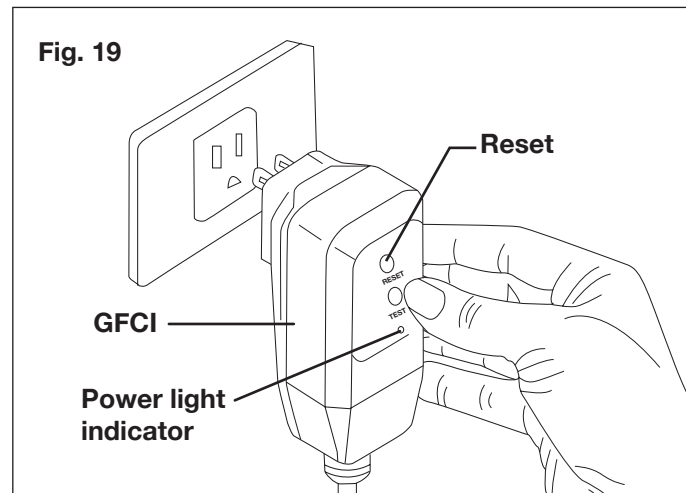

Fig. 19
15. Check that the electrical supply voltage and frequency (Volt/Hz) correspond to those specified on the pressure washer rating plate. If the power supply is correct, you may now plug the pressure washer into the power outlet (Fig. 19).